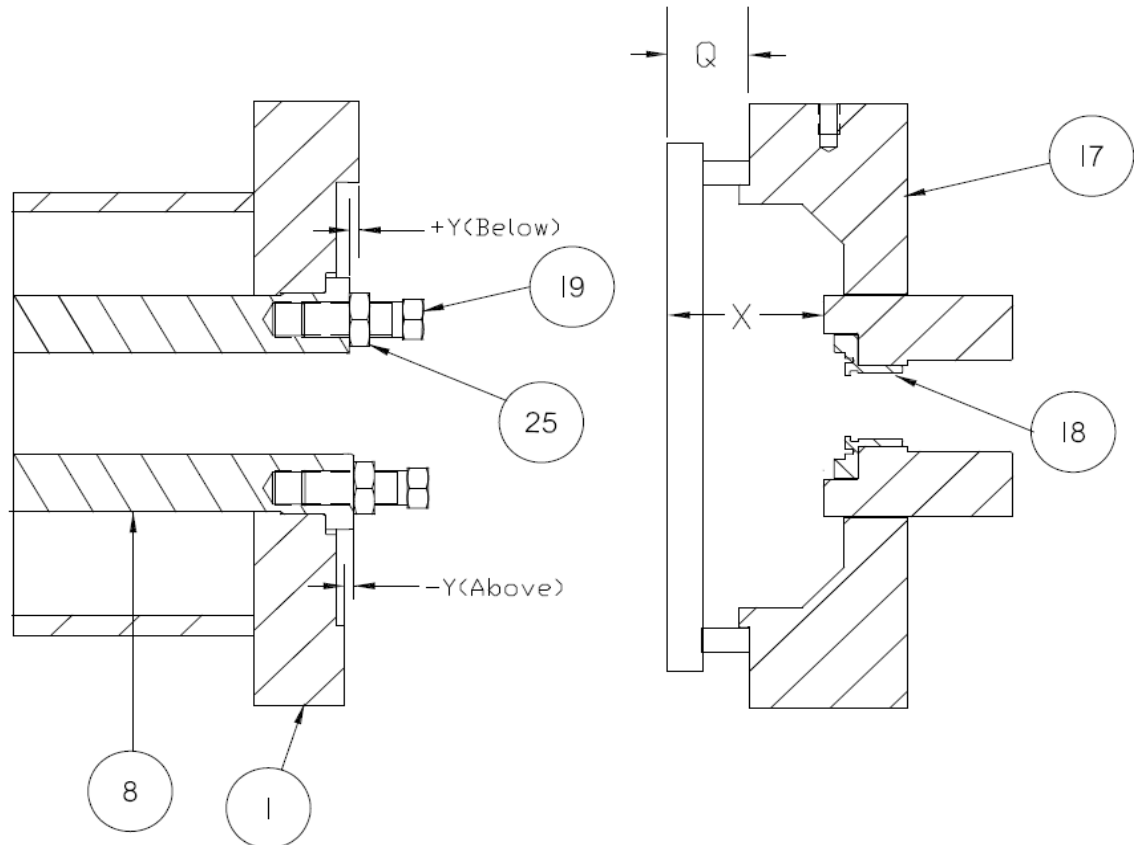

Figure 2 - Set Adjustment Screws, Inboard End
Step 1. Install jam nuts (25) and adjusting screws (19) to rotor housings (8 & 10). Install nuts and screws loosely, do not tighten at this time.
Step 2. Align anti-rotation pin slot in housing to pin hole on side of case flange. Slide drive end rotor housing (8) into pump case (1) inboard end. Repeat for non drive end rotor housing (10) assuring that rotor housing flanges are fully seated on case positioning lugs counter-bore. To assist in aligning housing bores, install idler rotors (14) into idler bores. Rotate rotor housings until idlers slide back and forth freely without binding. When rotor housing bores are aligned, install anti-rotation pins (11) per above note. Slide idler rotors back and forth again ensure no binding exists. Install pipe plugs (7).
Step 3. Install shaft bushing (18) to inboard cover (17) aligning two capscrew holes with tapped holes in inboard end cover (17). Install capscrews (95) and torque to 27 ± 2 ft-lbs. (37 ± 3 Nm) per the Nylok torque procedure (see Sect. I.1.2). Install straight (anti-rotation) pins (96) to bushing (18). Install bushing insert (57) to bushing (18) align notches over anti-rotation pins.
Step 4. Next set the rotor housing adjusting screws by the following directions: Rotor housing adjusting screws (19) at inboard and outboard ends of the pump should be set following the directions outlined in Figures 2 and 3. To verify correct setting of adjusting screws (19), wipe bluing or place fuse wire on adjusting screw heads and install inboard end cover (17) with gasket (4) and bolts (2). Torque bolts to 200 ± 10 ft-lbs. (210 ± 14 Nm). Remove inboard end cover and verify adjusting screw contact with inboard end cover.